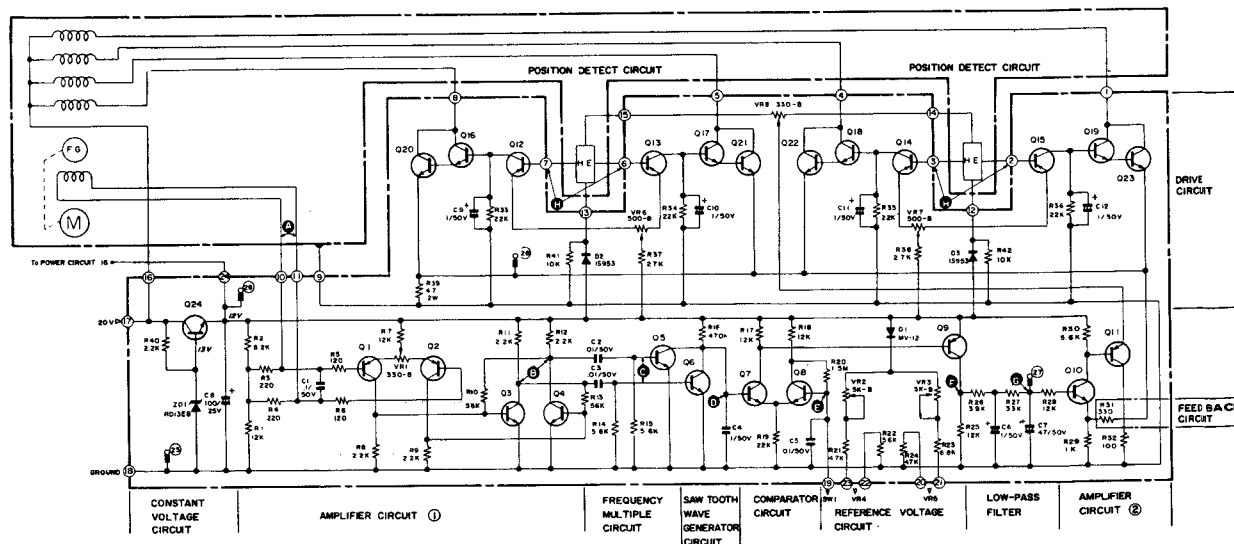

Figure 5-1
(The points ① to ⑧ are identical to those indicated in the annexed "Circuit Diagram" Figure 5-1.)